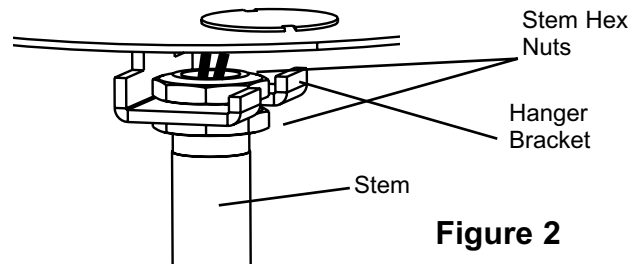

Figure 2
5. Thread (1) of the stem hex nuts entirely onto the stem threads and the other stem hex nut approximately 1/8" onto the stem threads so that the top of the stem hex nut is flush with the top of the stem. (about 1/4" left between nuts). Feed the transformer secondary wires down the stem. Slide the stem into the open end of the hanger bracket so it is between the 2 stem hex nuts. Tighten the lower stem hex nut until tight while holding the stem in position. (see Figure 2)
3. Thread (1) of the stem hex nuts entirely onto the stem threads and the other stem hex nut approximately 1/8" onto the stem threads so that the top of the stem hex nut is flush with the top of the stem. (about 1/4" left between nuts). Feed the transformer secondary wires down the stem. Slide the stem into the open end of the hanger bracket so it is between the 2 stem hex nuts. Tighten the lower stem hex nut until tight while holding the stem in position. (see Figure 2)